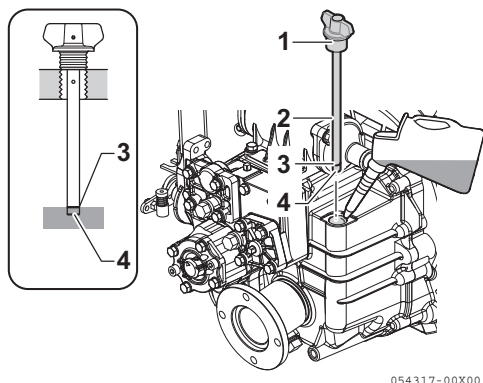

Figure 7
2. Remove the filler cap (**Figure 7, (1)**) at the top of the housing.
3. Remove dipstick (**Figure 7, (2)**) and wipe with clean cloth.
4. Re- insert the dipstick without screw in. See the illustration (**Figure 7**).
5. Remove dipstick. The oil level should be between upper (**Figure 7, (3)**) and lower (**Figure 7, (4)**) lines on the dipstick.
3. Fill with oil to the upper limit on the dipstick (**Figure 7, (3)**). See *Marine Gear Oil Specifications* on page 59.